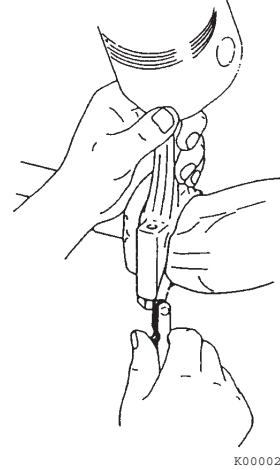

Figure 6-54
1. Using a feeler gauge, measure the connecting rod side clearance as shown (Figure 6-54). See Connecting Rod on page 6-14 for the standard limit. If the measurement is out of specification, replace the crankshaft, connecting rod, or both.